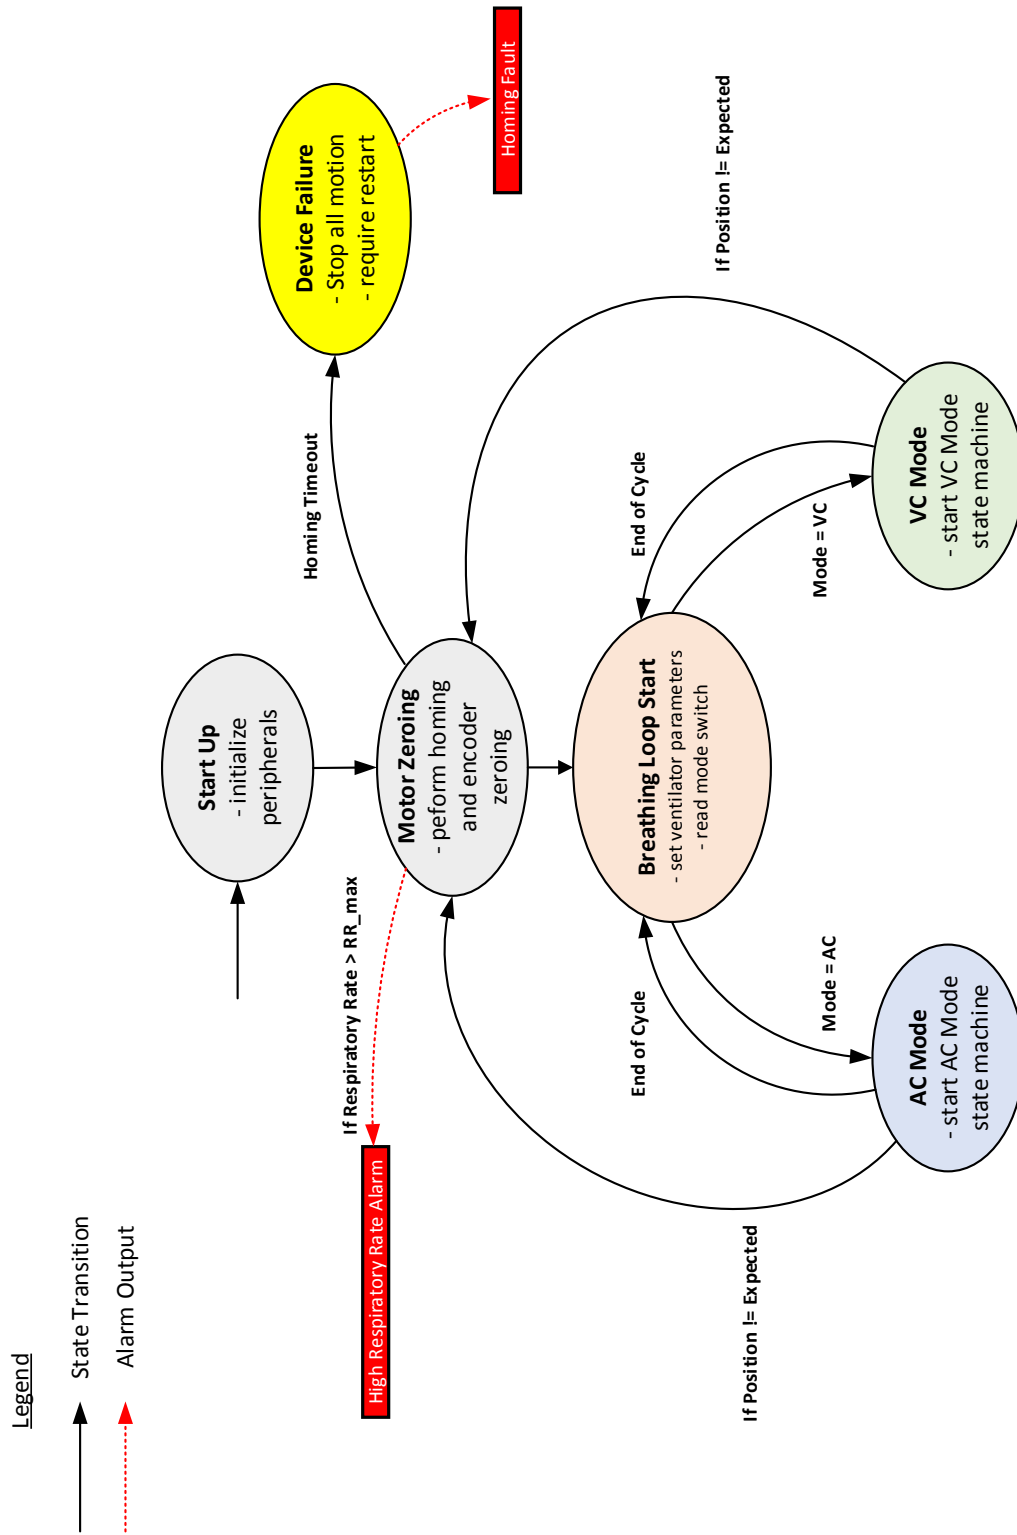

Figure 2: Overall Program State Flow Diagram
1. The overall program state flow diagram is shown in Fig. 2.